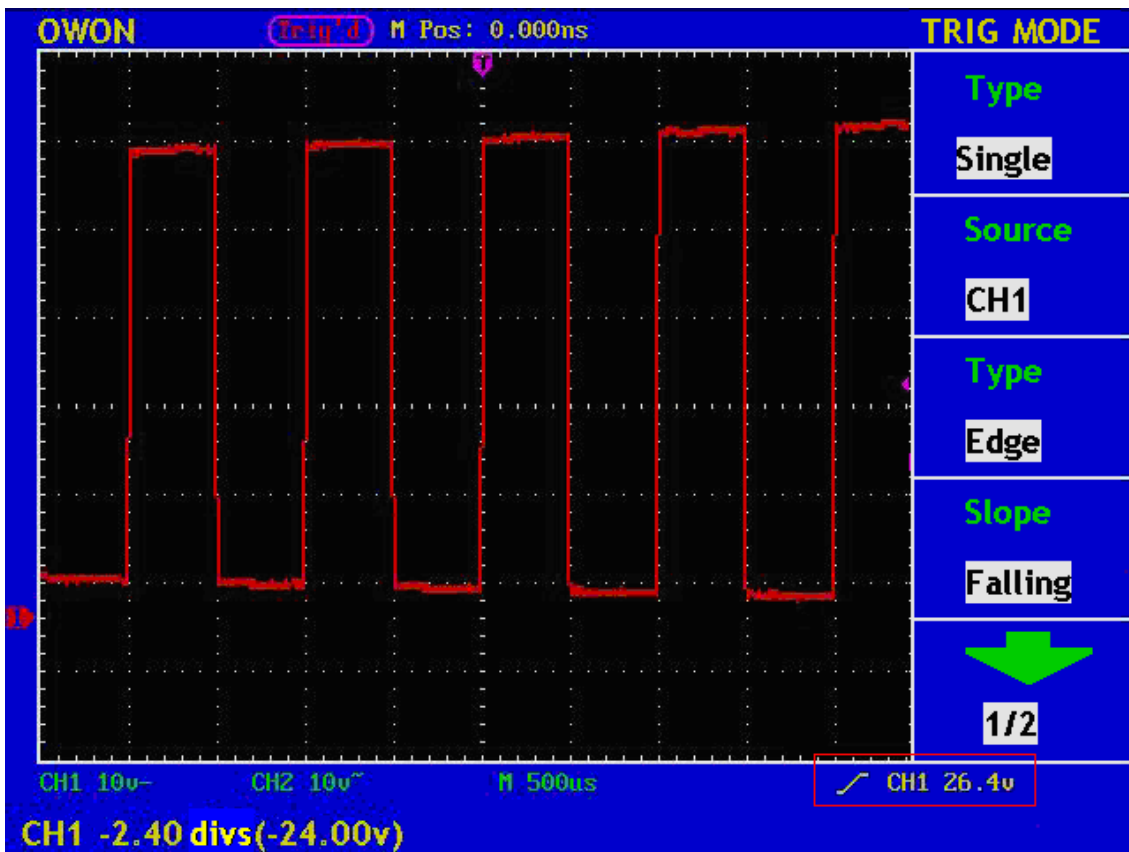

Fig. 28 Wave Form Triggered on the Rising Edge
7. Press the **F5** menu selection button and press the **F3** menu selection button choose **DC** for Coupling. The display in the screen is as Fig. 28.